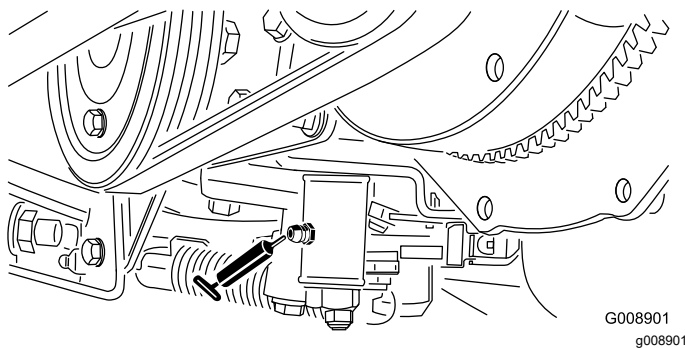

Figure 58
- Neutral adjust mechanism (Figure 58)